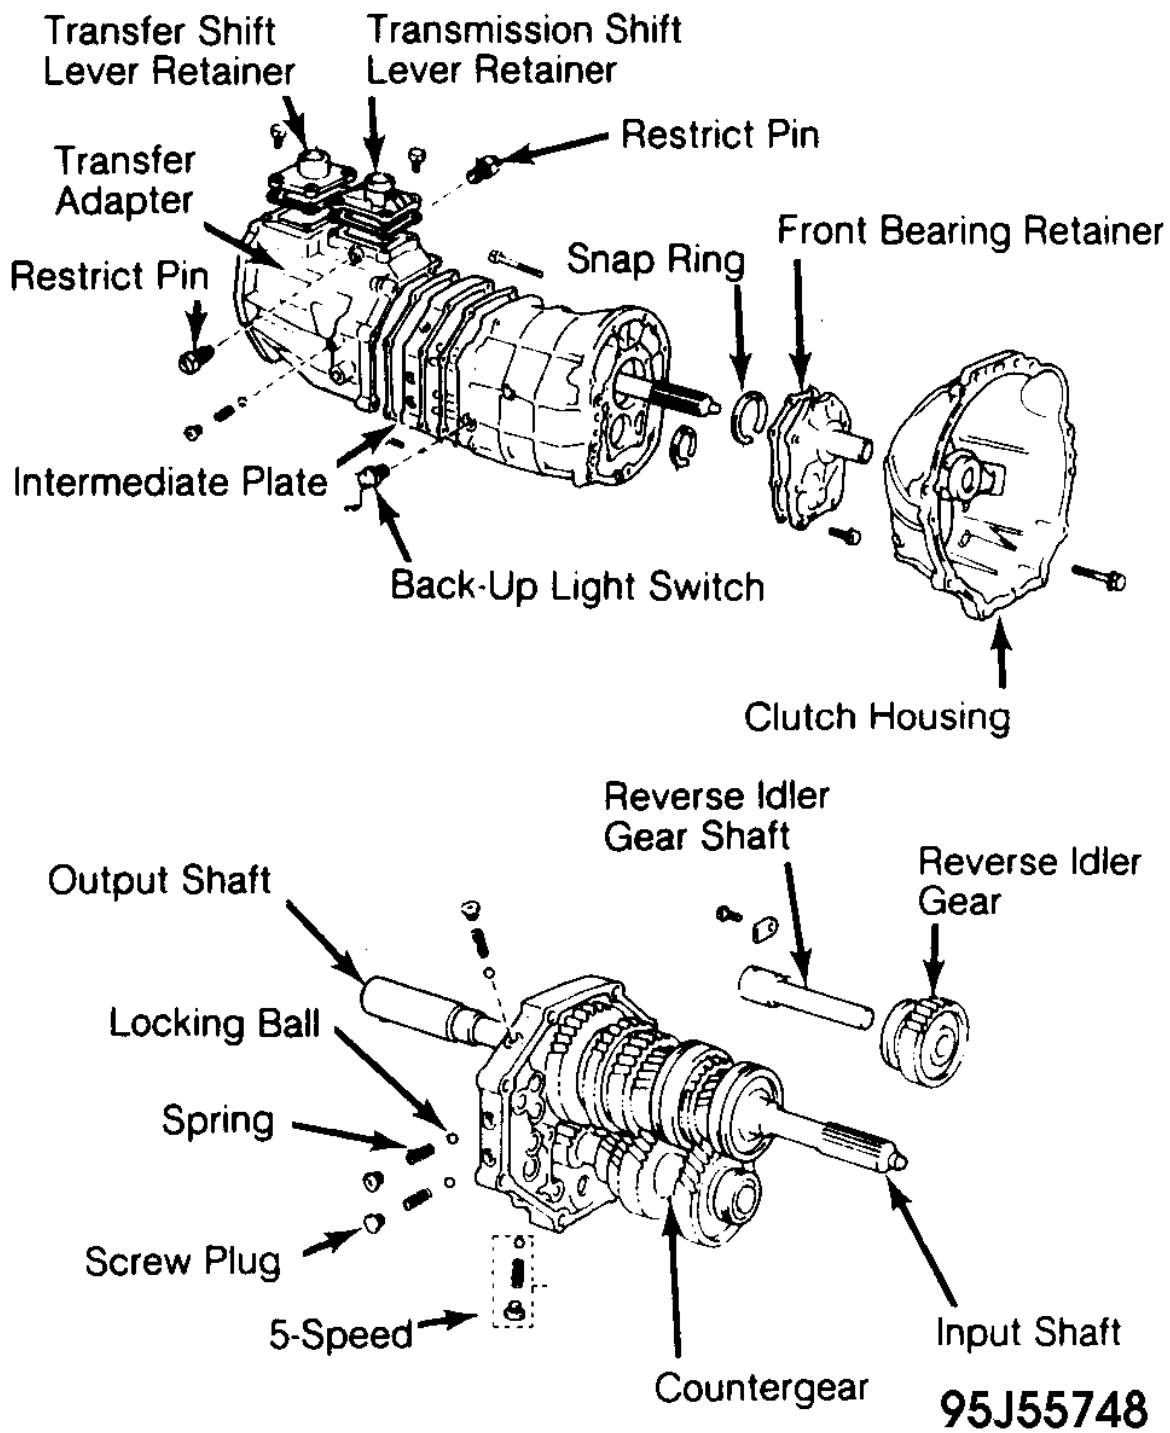

Fig. 1: Toyota G52 Transmission
1. Remove back-up light switch, shift lever retainer and restrict pins. Remove 9 clutch housing bolts. Using plastic hammer, remove clutch housing from transmission case. See Fig. 1 and Fig. 2.